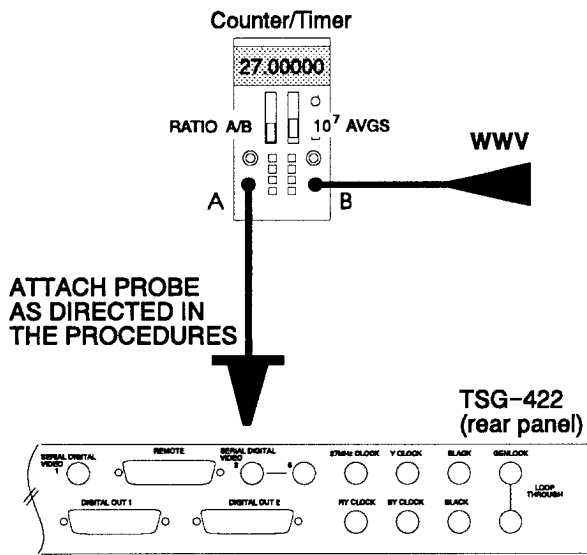

Fig. A-6. Setup to Check the Serial VCO Frequency.
- Connect the equipment as shown in Fig. A-6. Connect the probe to TP1 on the Serial Output board.